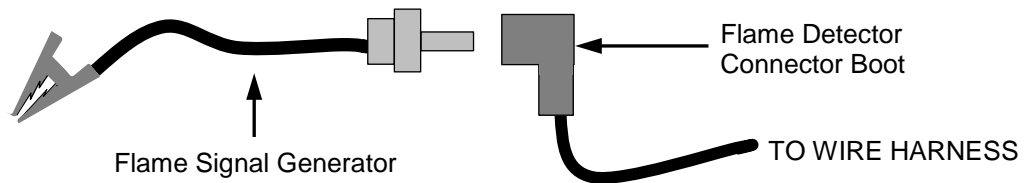

Figure 6.3a: Connecting the Flame Signal Generator
- (b) Push the **BACK** button three (3) times to return to the upper level menu.
- (c) When the Controller gets into the ignition phase, the Control Panel will show *IGNITION TRIAL*. At that point attach the alligator clip (see Figure 6.3a) to any bare metal surface or ground. The C-More display should now show *FLAME PROVEN* and begin to ramp up to 100% fire rate. Note that no gas or flame is present in the boiler at this time.